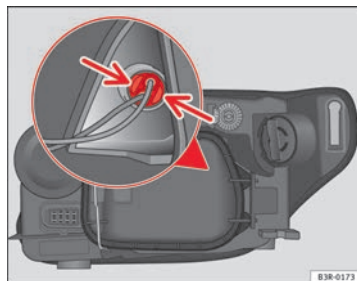

Fig. 213 Side light bulb (outside of vehicle)
- Gently press on the bulb holder tabs ⇒ Fig. 213 and pull the cover upwards (it can also be removed by pulling on the bulb holder wires).